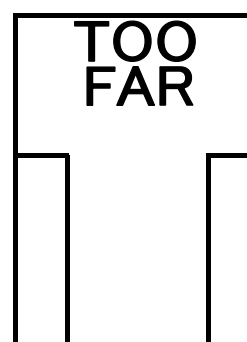

Fig.14
- (6) If the aircraft stops at a position beyond the correct stopping position, a message "TOO FAR" will be displayed on the screen. (Fig.14)